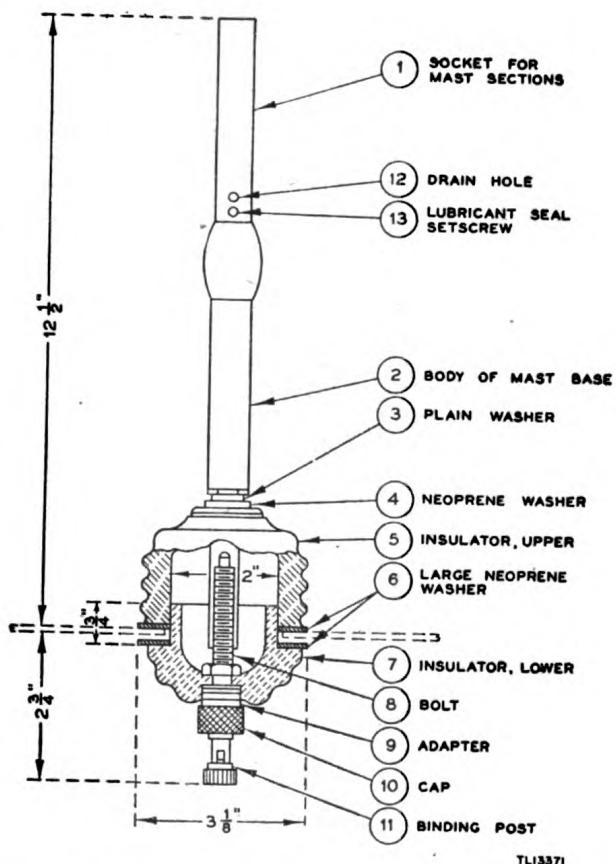

Figure 9. Mast Base AB-15/GR, assembly for Wire W-128 lead-in.
7. (20) AND NECESSARY HARDWARE ARE PROVIDED WITH (11).
8. HARDWARE REQUIRED FOR MOUNTING TO (19) IS PROVIDED WITH (12).
9. FOR INSTALLATION OF (7) FOR USE WITH (14) SEE FIG. 9.
10. (27) INCLUDES EXTERNAL POWER AND INTERPHONE CABLES.